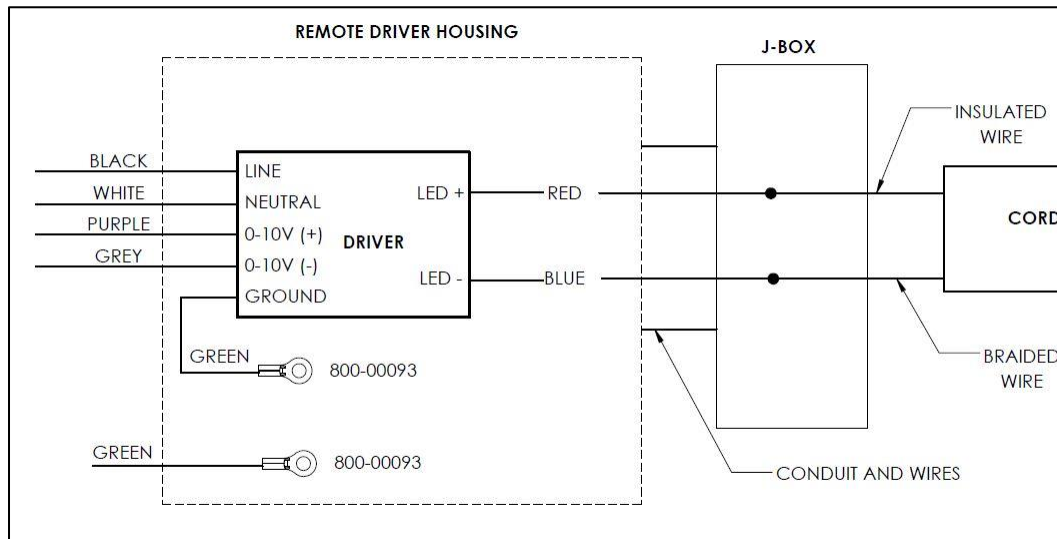

FIG. 12 – WIRE DIAGRAM FOR 24", 36", 48" AND 60" MODELS
- Connect the Fixture Cord wires as per WIRE LABEL TABLE and refer WIRE DIAGRAM as shown in FIG.12. below for exact wire connections.